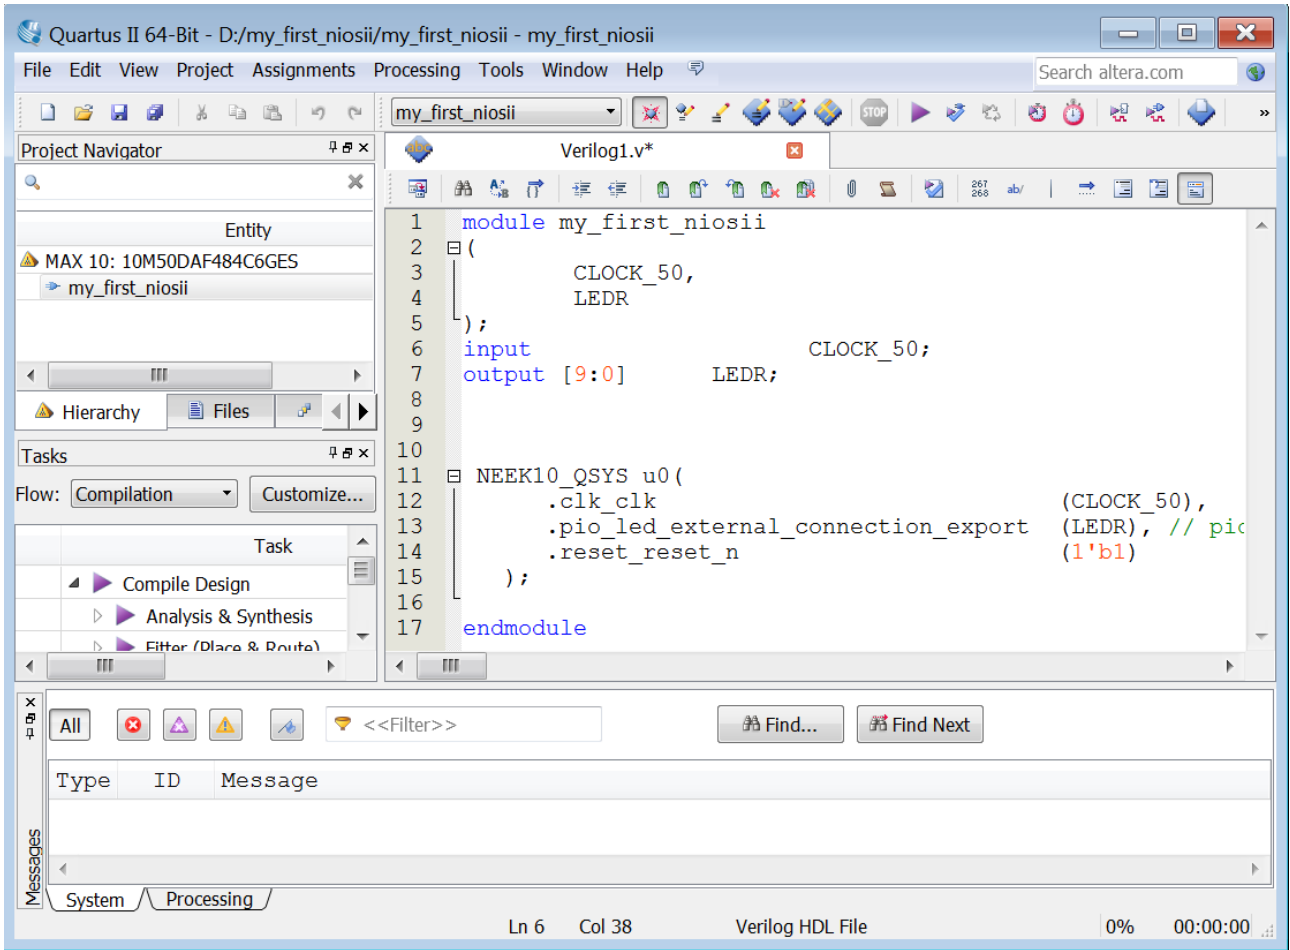
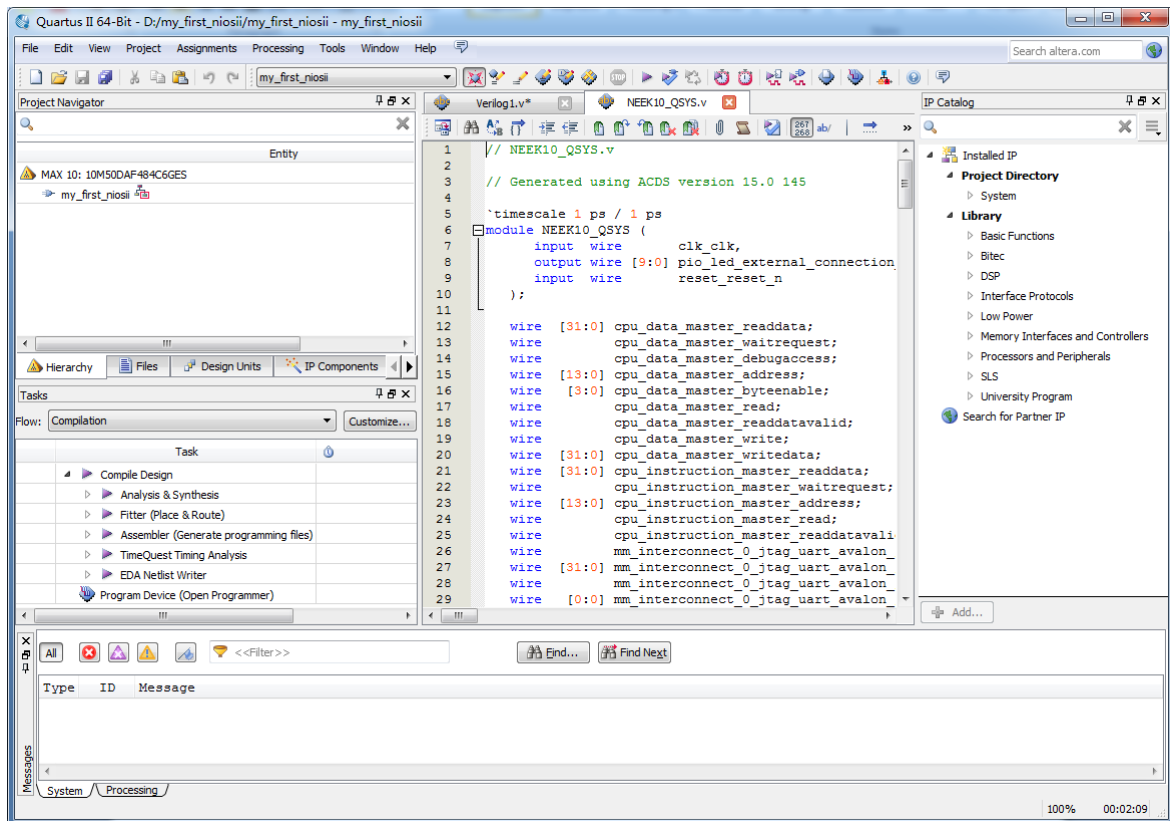

Figure 1-38 Input verilog Text
Figure 1-39 The module NEEK10_QSYS generated in Qsys
34. Type in the following codes, as shown in **Figure 1-38**. The module NEEK10_QSYS comes from NEEK10_QSYS.v, which is generated in Qsys. **Figure 1-39** shows the contents of NEEK10_QSYS.v.